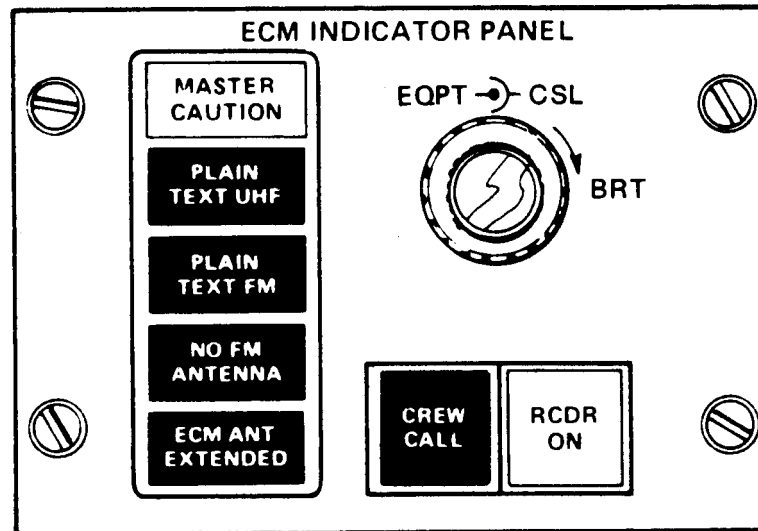
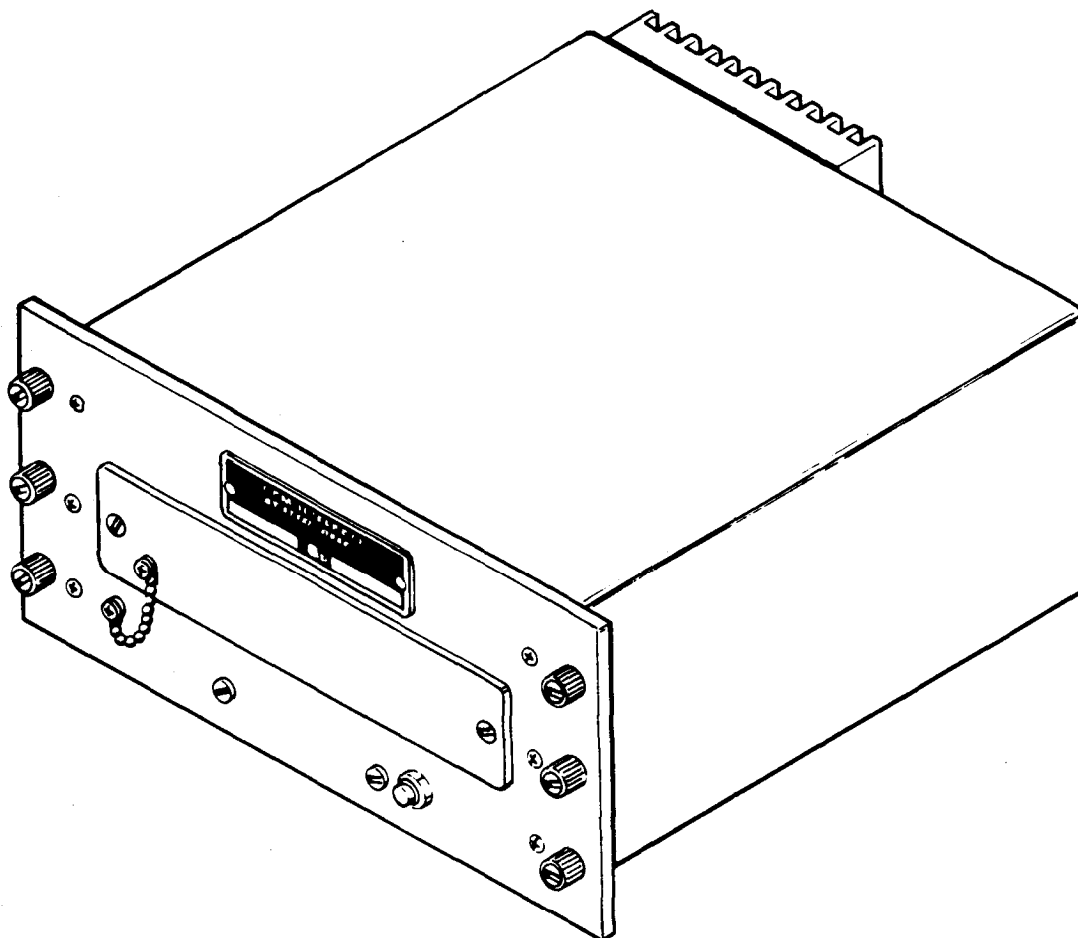

Figure 1-1. Countermeasures Panel Indicator ID-2300/ALQ-151(V)
Figure 1-2. Countermeasures Control C-11124/ALQ-151(V)
1-1. Scope. This manual provides organizational, direct support, and general support maintenance information, and repair parts and special tools list (RPSTL) for Countermeasures Panel Indicator ID-2300/ALQ-151(V) and Countermeasures Control C-11124/ALQ-151(V). Countermeasures Panel Indicator ID-2300/ALQ-151(V) (figure 1-1) is hereinafter referred to as the ECM panel indicator, and Countermeasures Control C-11124/ALQ-151(V) (figure 1-2) is hereinafter referred to as the countermeasures control. In addition, the manual provides general information, tabulated data, and a functional description of the equipment. Refer to TM 32-5865-012-10 for organizational operating instructions for the ECM panel indicator.